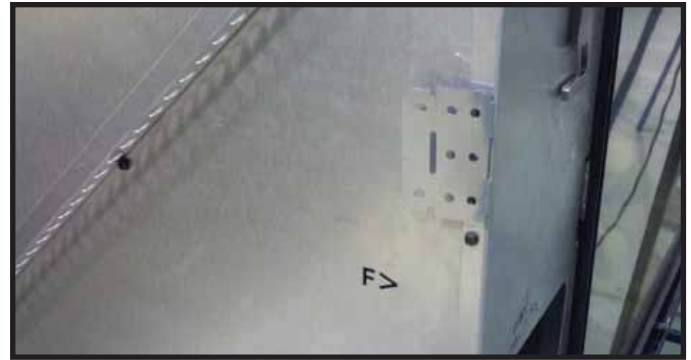
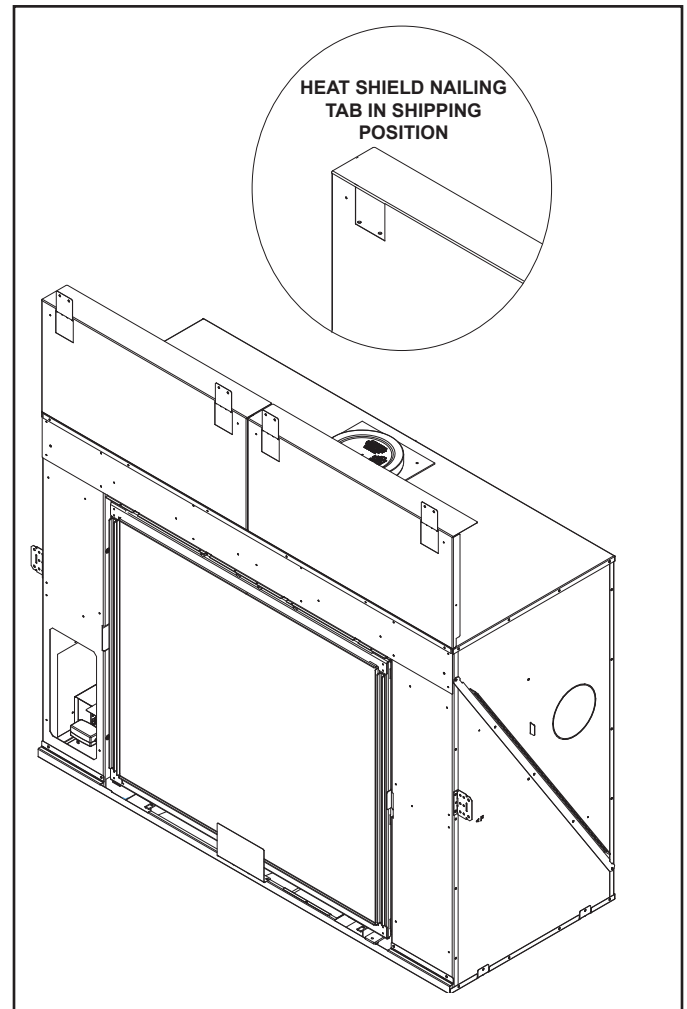

Figure 9.3 Side Nailing Tab in Shipping Position
Figure 9.5. Heat Shields and Nailing Tabs in Installation Position
Nailing tabs are provided on the appliance and on the heat shields to secure the appliance to the framing members. See Figure 9.3 and Figure 9.5 for location of nailing tabs in shipping position.
- Bend the top header heat shields upward to position them vertically and bend out the two nailing tabs on the top of each header heat shield. Secure to framing. See Figure 9.5.